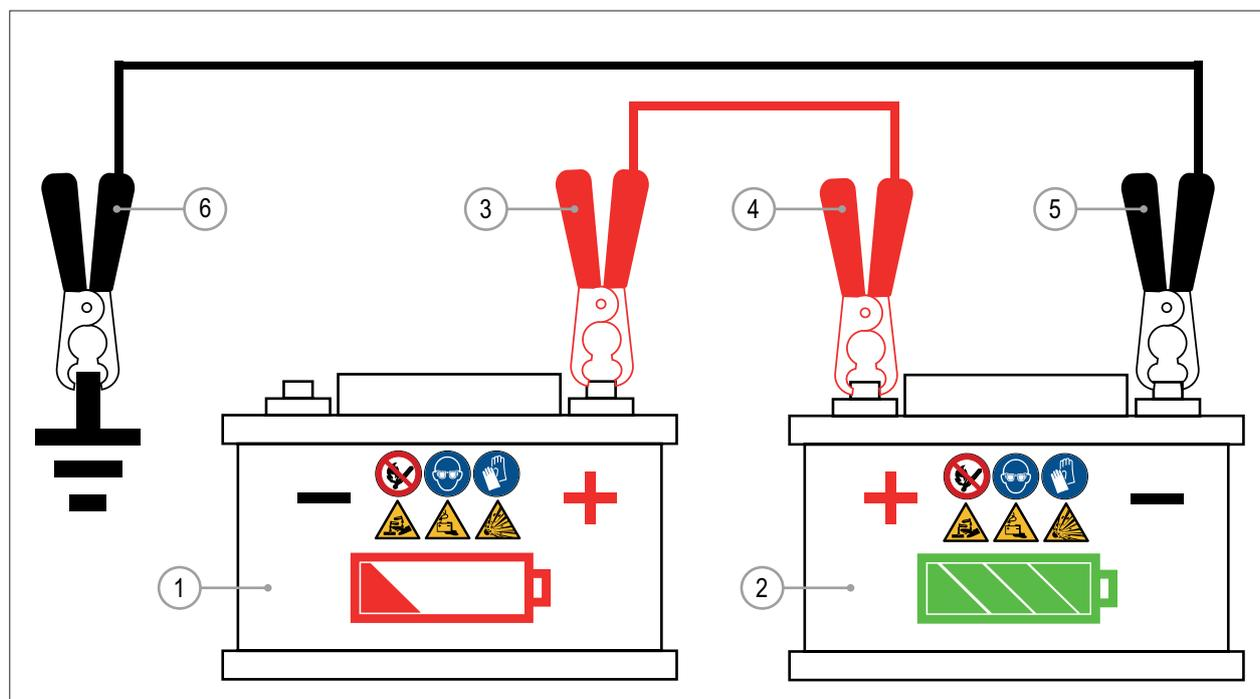

FIG. 38
If the machine battery (FIG. 38 - Rif. 1) is disabled it is possible to start the engine using an booster battery and the booster cables (see FIG. 38) or a booster.
- 3) Connect positive (+) booster cable to disabled machine battery positive(+) post (FIG. 38 - Rif. 3). You can also connect it to the positive post of the starter motor (FIG. 44 - Rif. 4).
- 4) Connect other end of positive(+) booster cable to booster battery positive(+) post (FIG. 38 - Rif. 4).
- 5) Connect negative (-) booster cable to booster battery negative (-) post (FIG. 38 - Rif. 5).
- 6) Connect other end of negative (-) booster cable to a metal part of machine frame or engine, away from battery (FIG. 38 - Rif. 6).